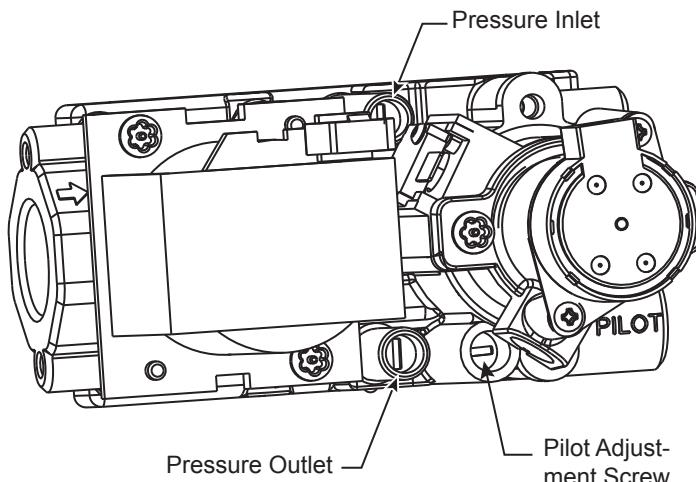

Figure 29 -
4. To check gas pressures at valve, turn captured screw counter clockwise 2 or 3 turns and then place tubing to pressure gauge over test point. Turn unit to high. *Figure 29.* After taking pressure reading, be sure and turn captured screw clockwise firmly to reseal. Do not over torque. Check test points for gas leaks.